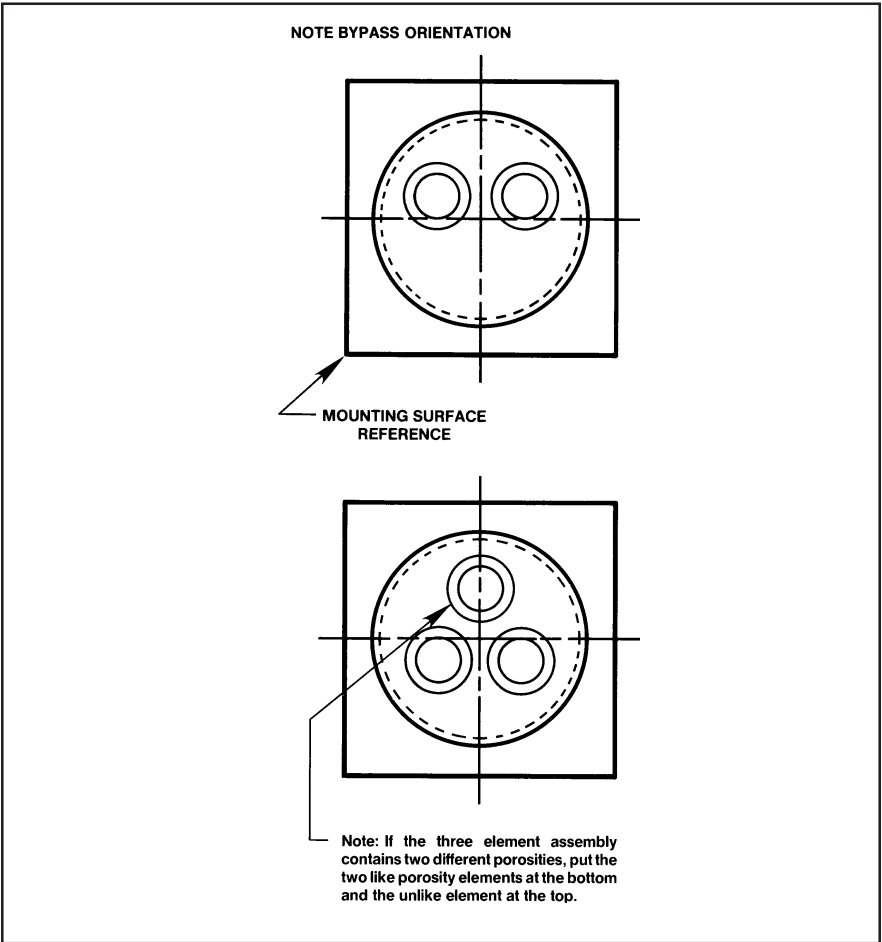

Figure 4-7 Model 5851i Restrictor Element Orientation in Controller Body
3. Put a lightly lubricated O-ring onto the header plate. The restrictor assembly can then be installed in the mass flow controller body (restrictor element(s) go in first). It is important that the restrictor assembly is put into the body in the correct orientation (Refer to Figure 4-7). Push this assembly in with your fingers. Do not use an arbor press or hammer to install the restrictor assembly. The restrictor assembly should be pushed in until it bottoms out. Do not force it beyond this point.